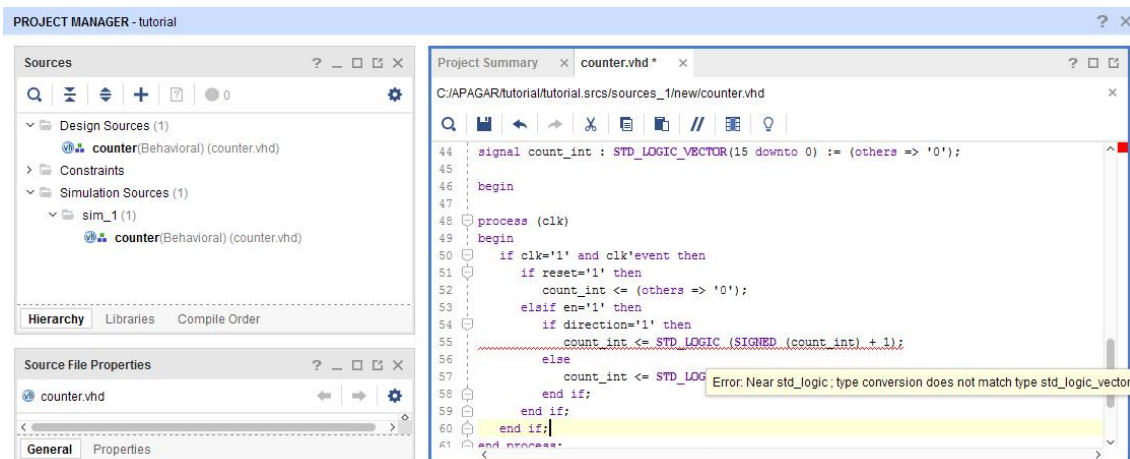

Figure 12
4. Hover the mouse cursor over the underlined line; a status window error message appears (Figure 12)